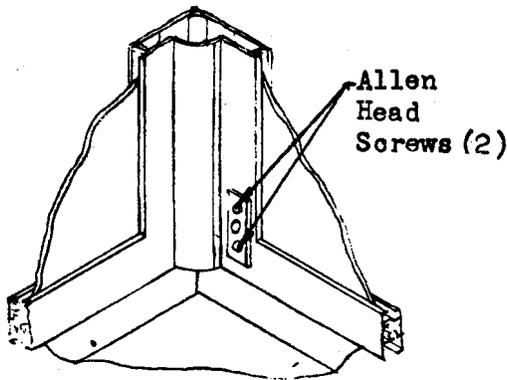

Fig. 5
- (a) Loosen the 2 Allen head screws located at the lower inside corner of each post (Fig. 5).
4. Loosen the 2 Allen head screws located at lower inside corners of each post. (See Fig. 5)